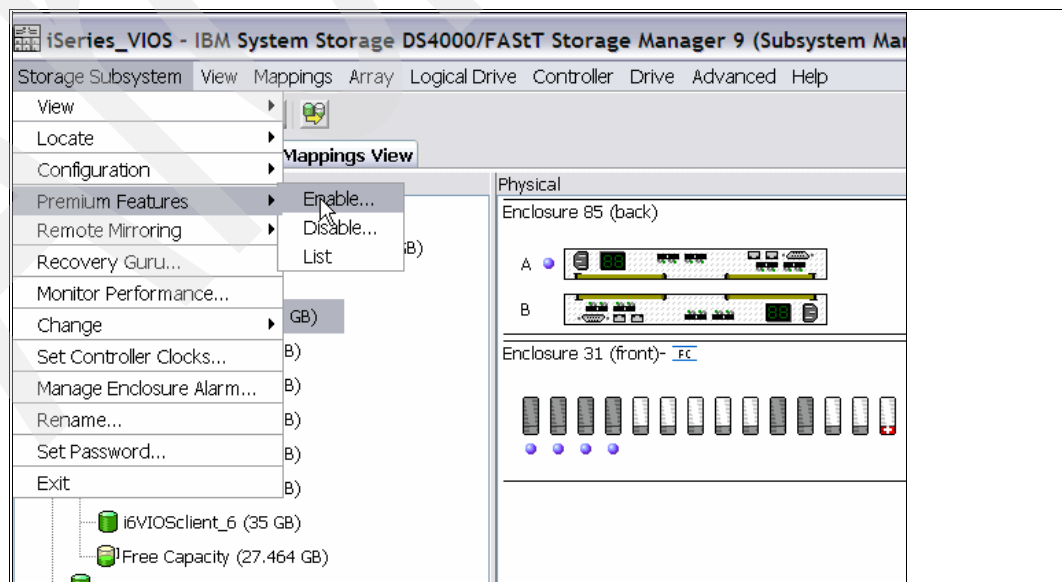

Figure 8-1 Enable FlashCopy premium feature
- a. Start the DS Storage Manager client and select **Logical / Physical view** of the relevant Storage System. Select **Storage Subsystems** → **Premium Features** → **Enable**. See Figure 8-1.